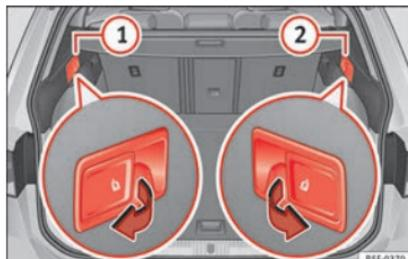

Fig. 112 In the luggage compartment: levers for remote release of the left part (1) and right part (2) of the rear seat backrest.
- Pull the remote release lever of the left part » Fig. 112 (1) or right part (2) of the backrest in the direction of the arrow. The released part of the rear seat backrest is folded automatically down and forwards.